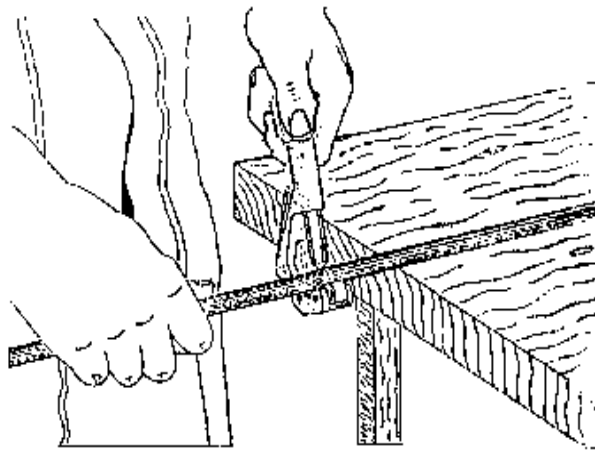
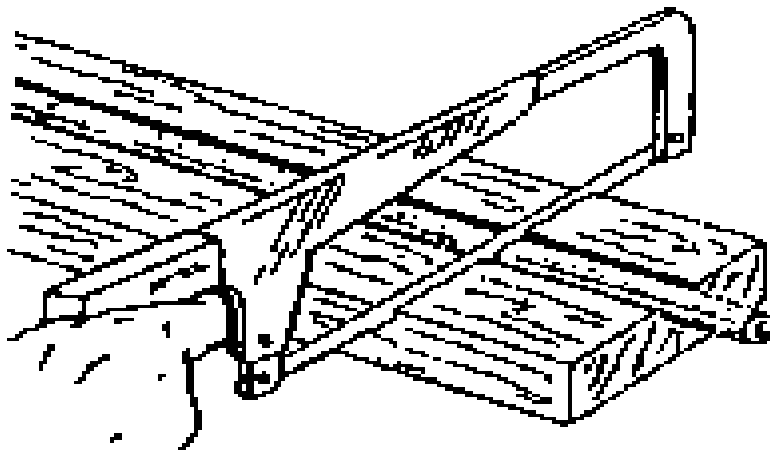

Figure 2, Tube Cutting.
Figure 3, Hacksaw
Step 2: A tube cutter (Figure 2) is the desired tool for cutting tubing. Fine tooth hacksaw (32 teeth to the inch) may be used if a properly designed jig is available (Figure 3).